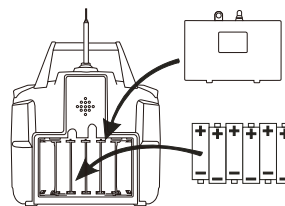

Fig. 2
3. Install batteries (size 1.5V AA, not included) according to polarity symbols (+) and (-) in battery compartment (Fig. 2).